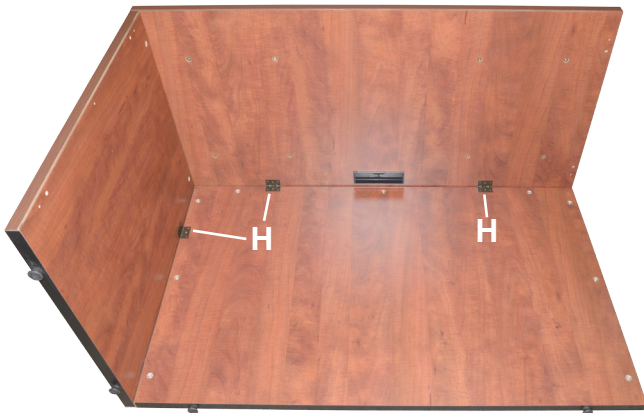

**Figure 1:** To open Cam, point arrow to Cam Pin Hole. To close and lock Cam, turn clockwise
**STEP 3 :** Attach Leg (C) to Modesty Panel (B) by lining up Cam Pins (D) and Dowel Rods (E) with their respective holes. Lock Cams (see Figure 1).